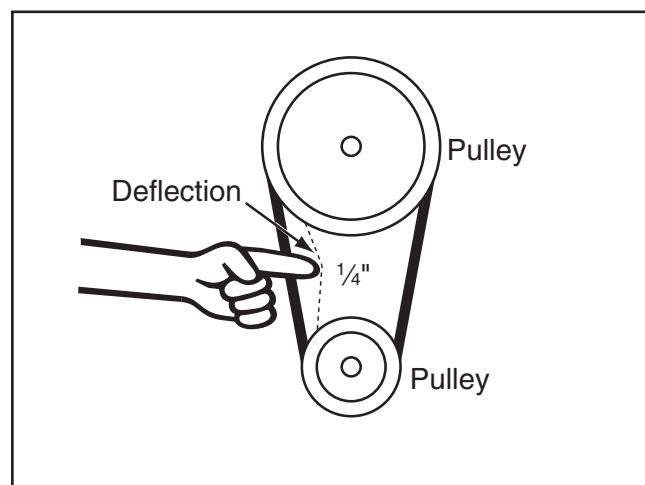

Figure 50. Checking V-belt tension.
5. Lower the motor and adjust the V-belt tension as needed so there is approximately $\frac{1}{4}$ " deflection when the V-belts are pushed with moderate pressure as shown in **Figure 50**.